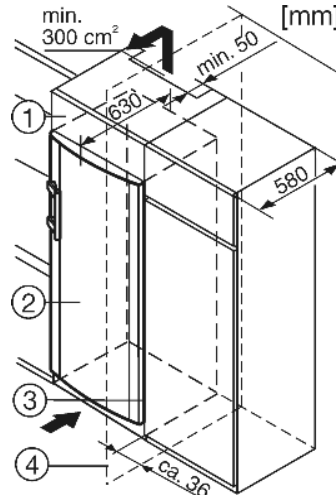

Fig. 8
- (1) Stack cabinet
- (2) Appliance
- (3) Kitchen cabinet
- (4) Wall
The appliance can be inserted into a row of kitchen units. To match the appliance Fig. 8 (2) to the height of the row of units, a suitable stack cabinet Fig. 8 (1) can be fitted above the appliance.
When inserting the appliance into a row of standard kitchen units (max. depth 580 mm), the appliance can be installed directly next to the kitchen unit Fig. 8 (3). The appliance door projects relative to the front of the kitchen unit by 34 mm at the side and by 50 mm in the middle of the appliance. It can be opened and closed perfectly as a result.
If the appliance is installed with the hinges next to a wall Fig. 8 (4), the distance between appliance and wall has to be at least 36 mm. This corresponds to the projection of the handle when the door is open.